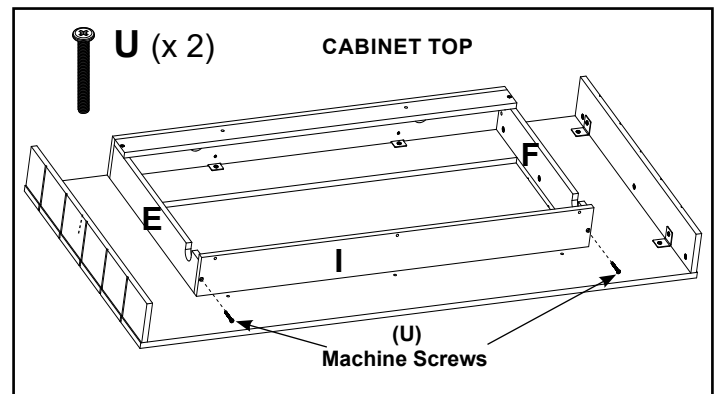

Figure 25
- Secure part "I" to parts "E" and "F" using two (2) M6 x 50 Machine Screws (U). See Figure 25.